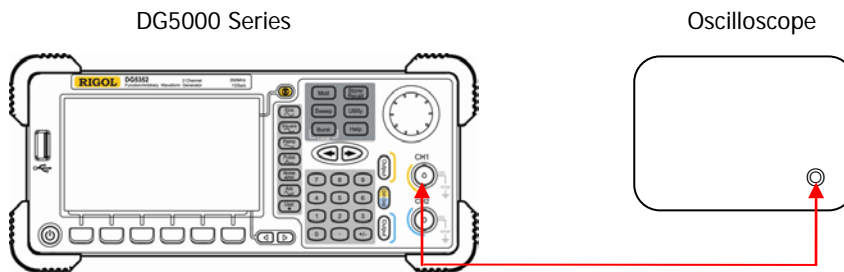

Figure 2-5 Connect DG5000 and the Oscilloscope
1. Connect CH1 of DG5000 and the signal input terminal of the oscilloscope using dual-BNC cable as shown in **Figure 2-5**.